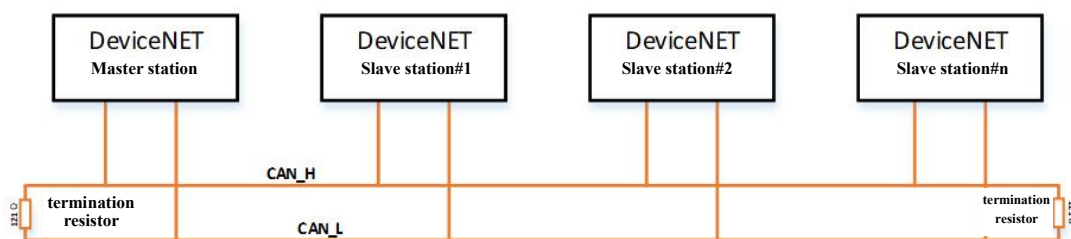

Figure 5-3-2 Terminal resistance wiring
**Note:** The power interface above the DeviceNet adapter needs to be separately connected to DC24V power supply. Terminal resistors (121  $\Omega$ ) need to be added to the two terminals in the network, as shown in Figure 5-3-2.